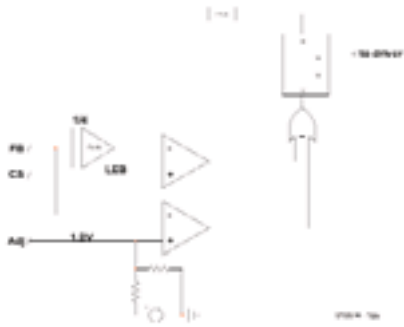

Figure 2a. The FB pin is continuously monitored by a comparator.
It does this by modulating I_p , since L_p and the switching frequency F_{sw} are fixed. I_p is measured by means of a shunt resistor placed in series with the power MOSFET. The voltage so obtained is applied to the Current Sense (CS) pin of the NCP1200. This voltage is then compared with the voltage on the FB pin, which is internally divided by a factor of 4 (see **Figure 2a**).
power is low. All that is needed to utilise this technique is a simple comparator, as is clearly illustrated in **Figure 2a**. As soon as the voltage on the FB pin falls below 1.4 V, a control element in the IC starts to suppress output pulses. The output pulses are thus modulated with respect to their number and repetition rate ('controlled burst' operation).